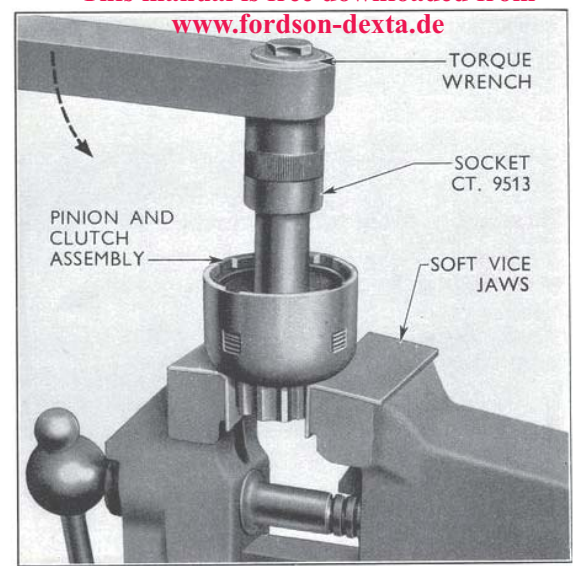

Fig. 14
6. Using the special socket (Tool No. CT.9513) and a suitable torque wrench apply an anti-clockwise torque to a central sleeve of the assembly (see Fig. 14). The clutch should not slip until the torque applied is between 65 and 80 lb. ft. (8.983 and 11.056 kg.m.).